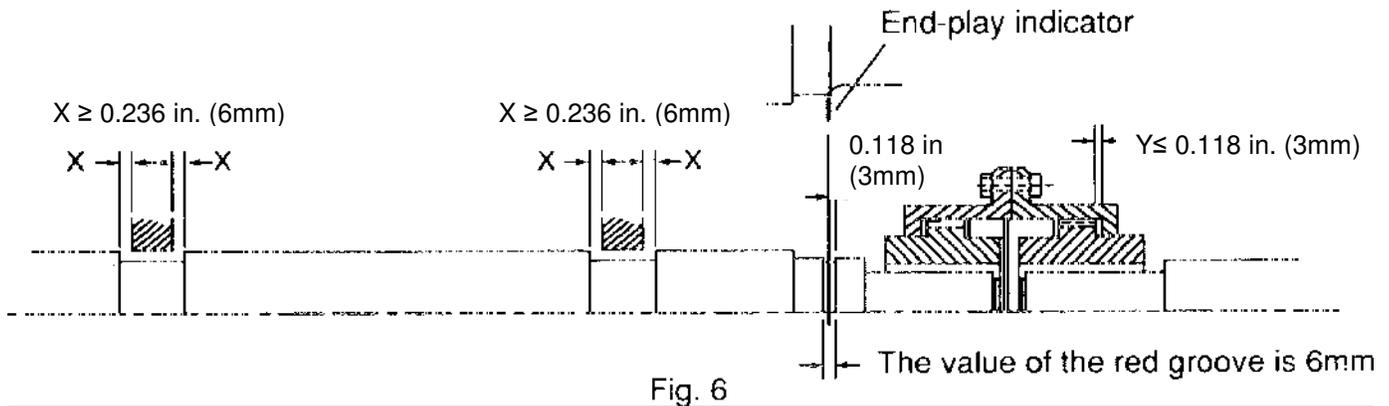

Fig. 6
- Unless otherwise specified, the designed end-play value X of the groove for TWMC motors in general is within 0.236 in. (6mm) as illustrated in Fig. 6. In essence, the endplay indicator is adjusted to point at the center of the groove or the drive-end shaft shoulder; thus X equals to $\pm 0.236 \text{ in. (6mm)}$ so, and the endplay value (Y) of the couplings should equal or be smaller than 0.118 in. (3mm).